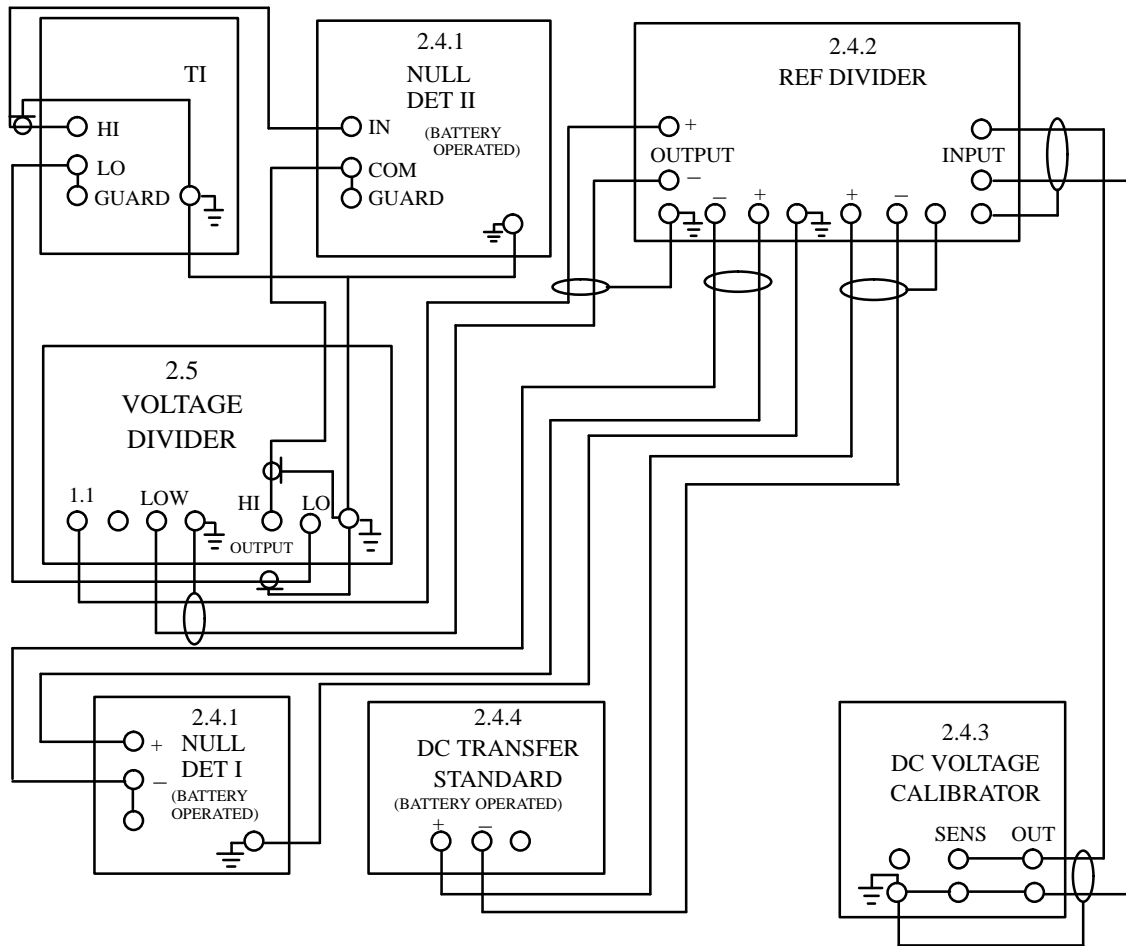

Figure 3. DC Microvolts Output and Linearity Test Configuration
4.3.2 Connect equipment as shown in Figure 3.